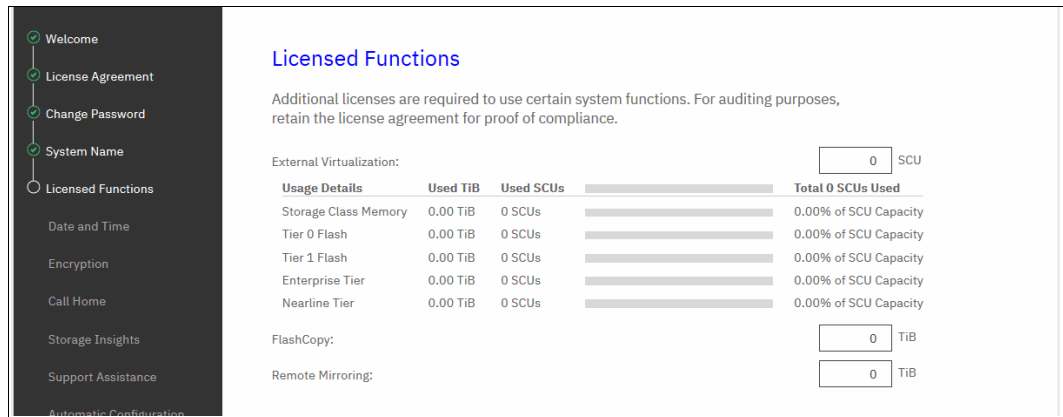

Figure 3-14 System Setup: Setting the system licenses
- Enter the number of licensed enclosures or licensed capacity for each function, as shown on Figure 3-14.